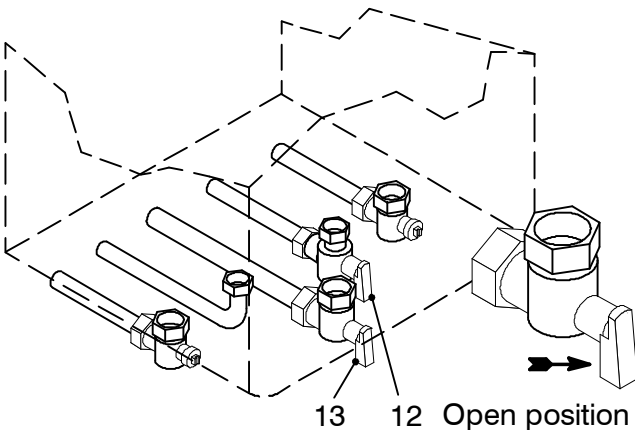

fig. 7.1
- 2 Open the gas cock 13 (fig. 7.1) on the appliance and check the gas connector on the appliance for leaks.
- 2 Open the cold water inlet valve 12 (fig. 7.1).